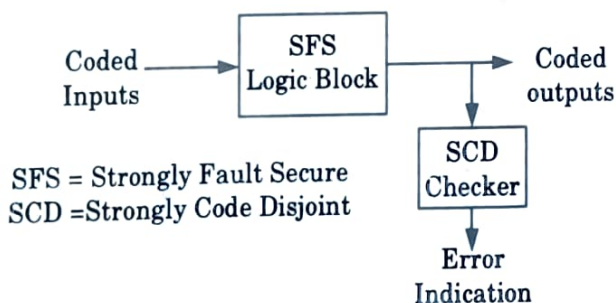

Fig. 5.17.1. Self-checking logic.
2. Self checking techniques consist of supplying coded input data to the logic block under test and comparing the output in a checker designed to delete any errors. This is shown in Fig. 5.17.1.